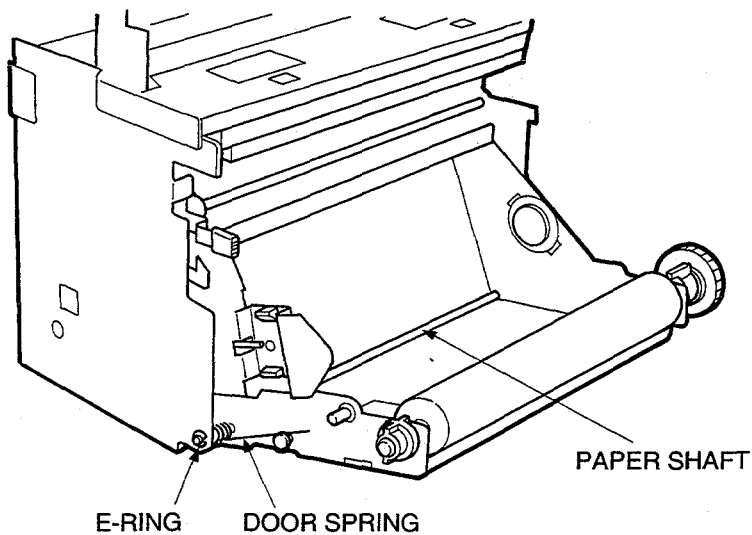

Fig. 2-3
2. Remove the E-RINGS (both sides) of the PAPER SHAFT. (Fig.2-3)
- Note : Be careful not to lose the door spring which comes off during the above process. (Fig.2-3)